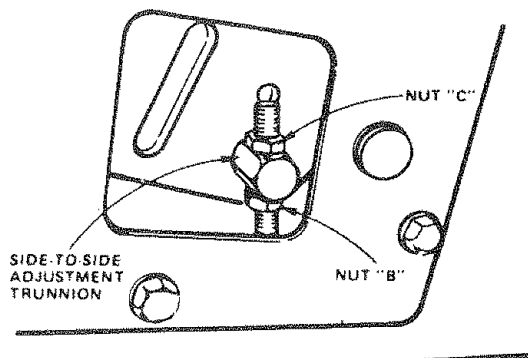

FIGURE 35
- c. If distance "A" needs to be changed, snap out access hole cover on L.H. side above footrest. Use 11/16" wrench on nuts "B" and "C" at side-to-side adjustment trunnion (Fig. 35).